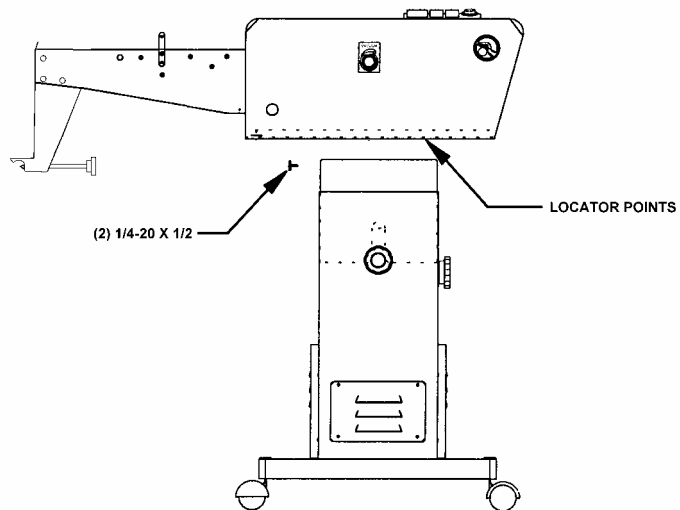

Figure 1B
4. Place the feeder on top of the stand by locating the two mating points on the bottom of the feeder. [Figure 1B]
7. Install the two (2)  $\frac{1}{4}$ -20 x  $\frac{1}{2}$  thumbscrews provided in the accessory kit.